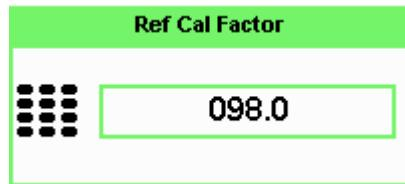

Figure 6-5 Reference calibration factor pop-up window
- 4 To change the settings, press the channel **REF CF**. The reference calibration factor pop up window is displayed as shown in Figure 6-5. Use the numeric keypad to enter the required value in the **Ref Cal Factor** pop-up menu.